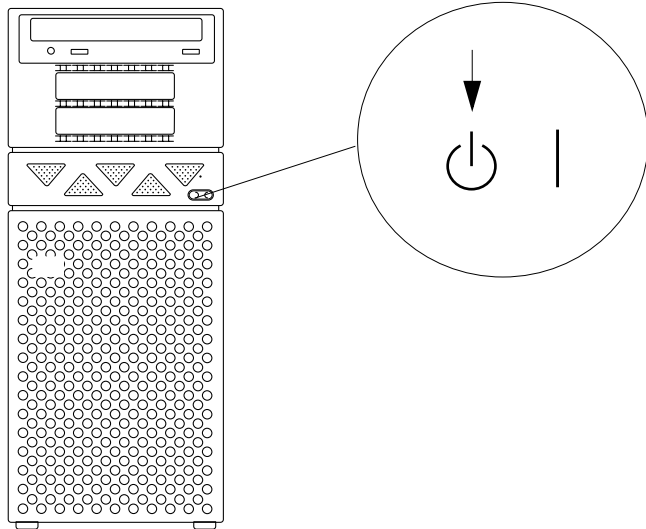

FIGURE 6-3 System Power Off (Front Panel)
3. Set the front panel power switch to the Off position (FIGURE 6-3).